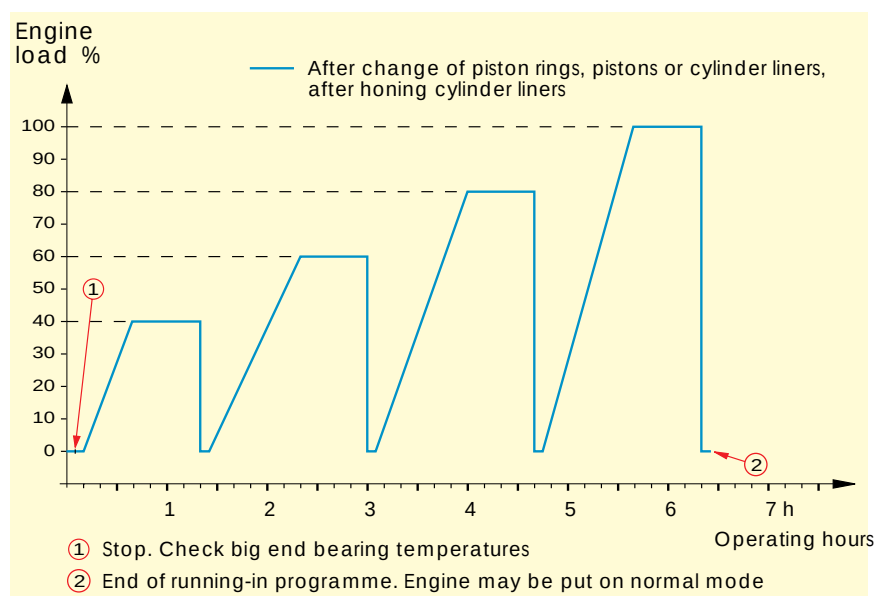

Fig 03-3
The running-in of a new engine must be performed according to programme in Fig 03-3. It is also recommended that running-in procedure is performed after following maintenance jobs.
- 1** After changing piston rings, pistons or cylinder liners, after honing of cylinder liners, follow programme in Fig 03-3 as closely as possible. If the programme cannot be followed, **do not load the engine fully for at least 10 h.**